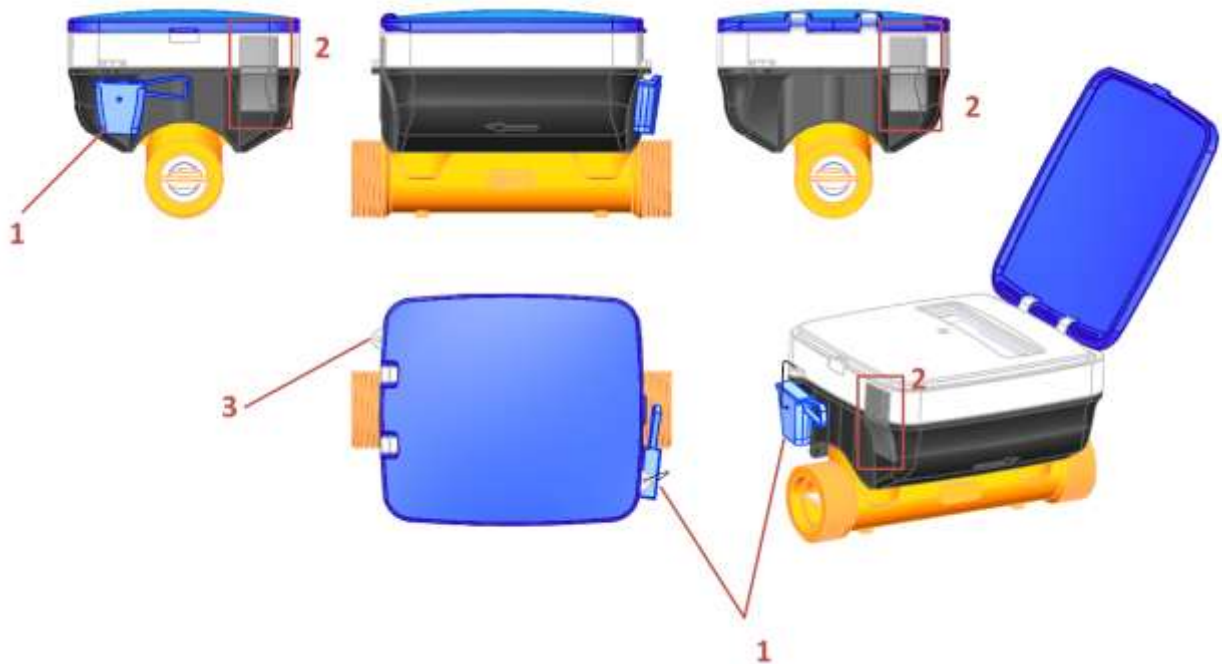

Fig.4. WM general view and sealing options.
- two optional security seals (pos. 1 in Fig.4). The meter design provides two holes to thread the security seal wires.
- two optional security self-destructive stickers (pos. 2 in Fig.4).
In Fig.4 see as an example of sealing positions: 3 with no seal and 1 with already installed security seal.